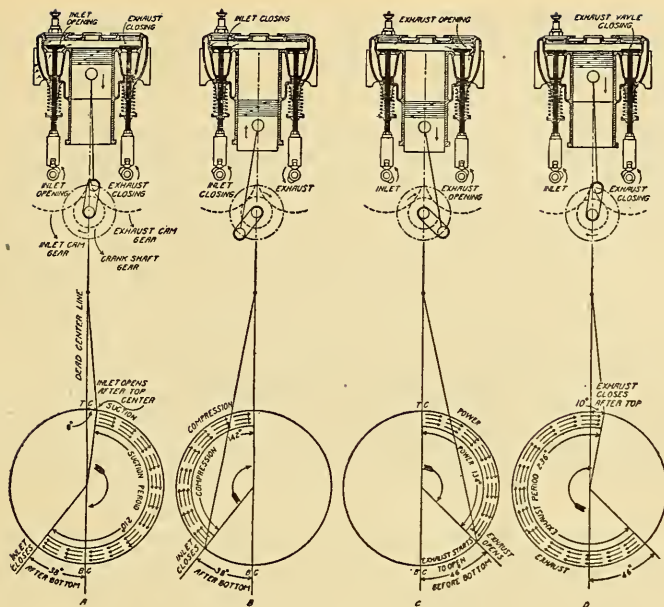

Fig. 3
79. The time the valves are usually held open and time of opening and closing are shown in Fig. 3.
79. Describe valve opening, time held open, and valve closing, as shown in Fig. 3.